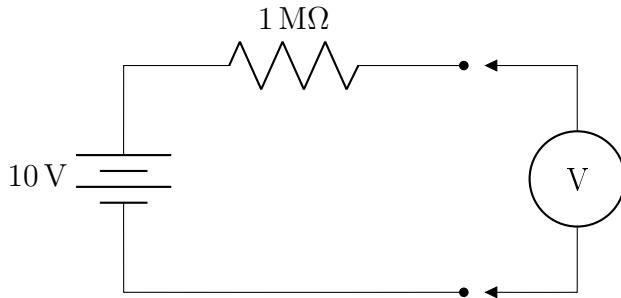

Figure 6: Circuit used to measure the internal resistance R_M of the voltmeter
To determine the internal resistance of the voltmeter, set up a circuit as shown in Figure 6.
4. Assemble the circuit in Figure 6.